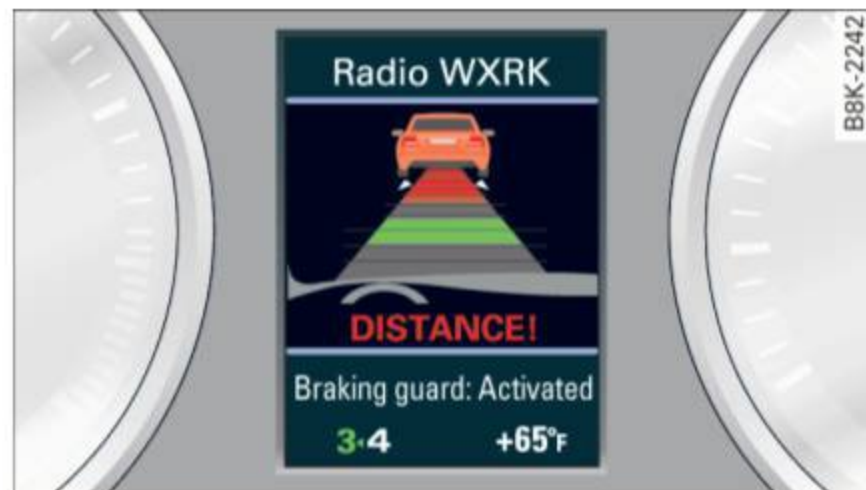

Fig. 103 Instrument cluster: approach warning
- The **approach warning** is given when a detected vehicle up ahead in your lane is moving much more slowly than you are or if it brakes sharply. When this warning is given, it may only be possible to avoid a collision by swerving or braking sharply. The indicator light  and indicator in the display will warn you about the danger ⇒ *fig. 103*. You will also hear an acoustic signal.